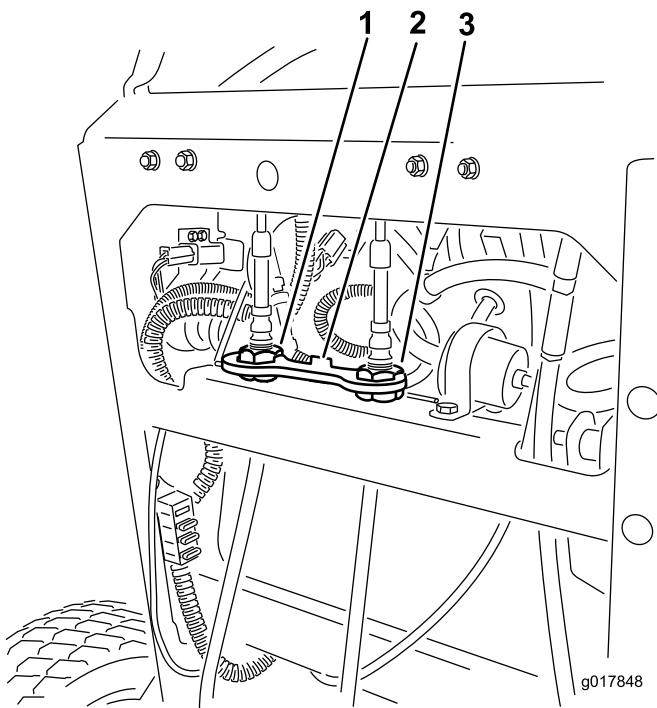

Figure 72
6. Install the cable lock onto the cable-adjusting nuts to secure the adjustment (Figure 72).